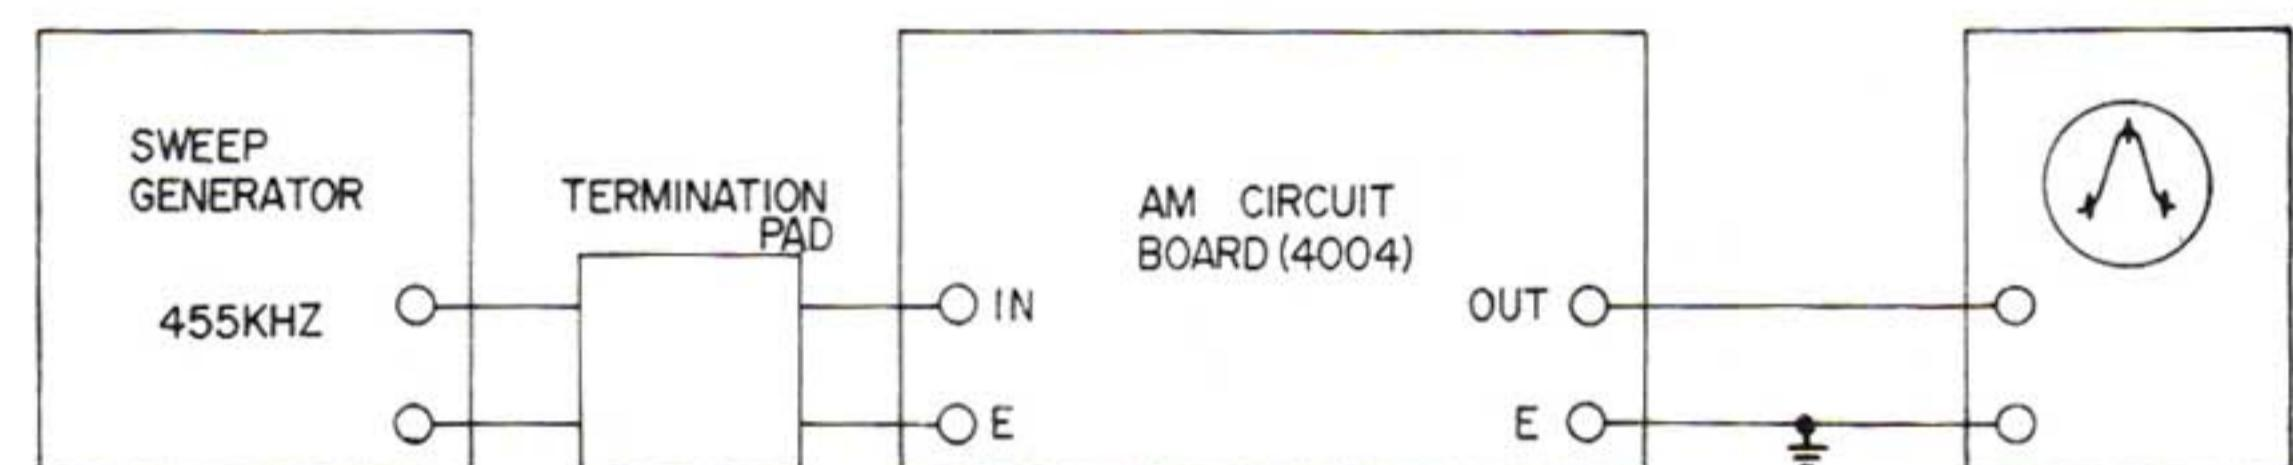

Fig. 9
- Connect the Sweep Generator output lead to test point (IN) and (E) of the AM-IF circuit board (4004). Connect the oscilloscope input lead to test point (OUT) and (E). (Fig. 9).